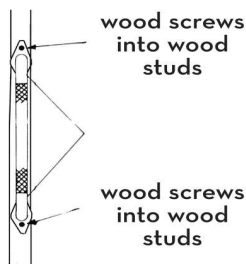
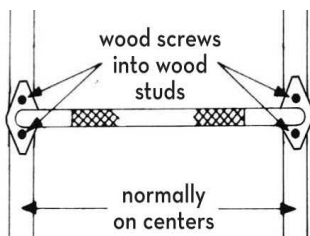

Figure 1
Figure 2
1. Place grab bar on wall in line with wall studs and mark location of screw holes. (Horizontal Attachment See Figure 1, Vertical Attachment See Figure 2.) After deciding on type of attachment, drill small hole to confirm the location of the stud.